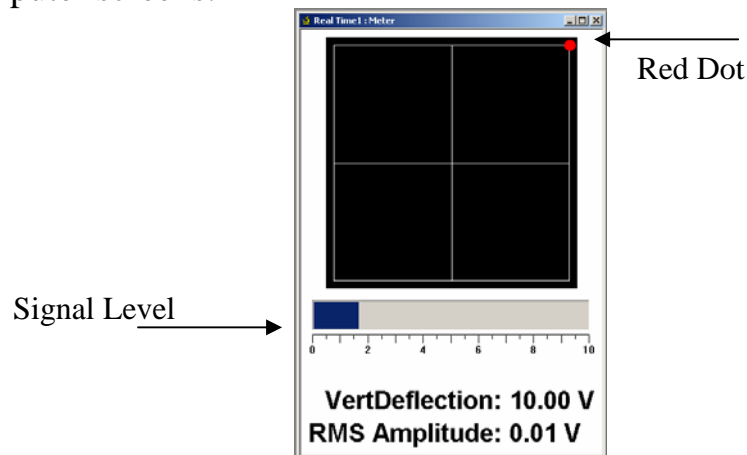

Fig 7
16. Check the meter on the computer screen (Fig 7). The signal level should be above zero. Maximize signal by slowly turning the laser alignment screws.